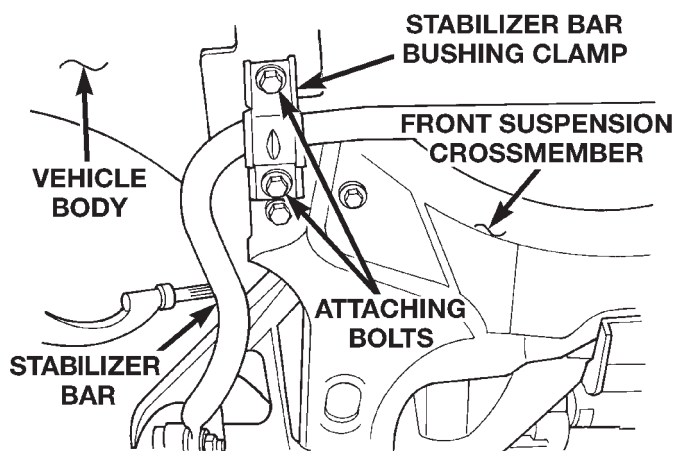

Fig. 10 Stabilizer Bar Bushing Clamp Attaching Bolts
(10) Remove the stabilizer bar bushing clamp to body attaching bolts only (Fig. 10). The sway bar
bushing clamp to front suspension crossmember bolts (Fig. 10) do not need to be removed.
(13) Install the 2 stabilizer bar bushing clamp to body attaching bolts (Fig. 10) and securely tighten.